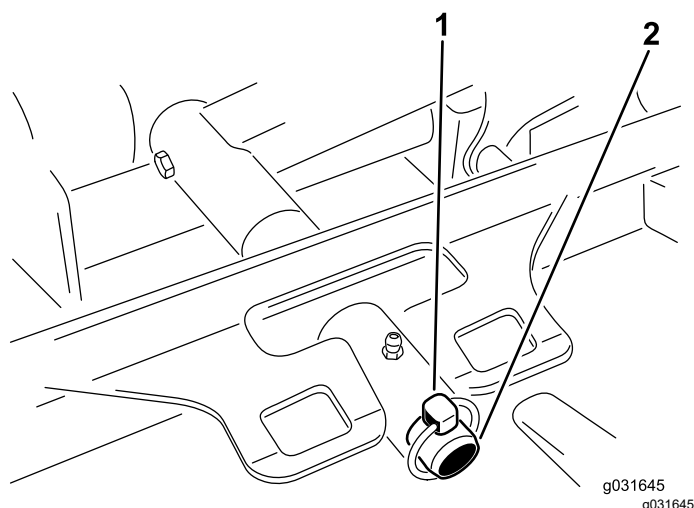

Figure 68
3. Remove the lynch pin or retaining nut securing the cutting unit carrier frame to the lift-arm-pivot pin (Figure 68).
3. Slide the cutting unit carrier frame onto the lift-arm-pivot pin and secure it with the lynch pin or retaining nut (Figure 68).